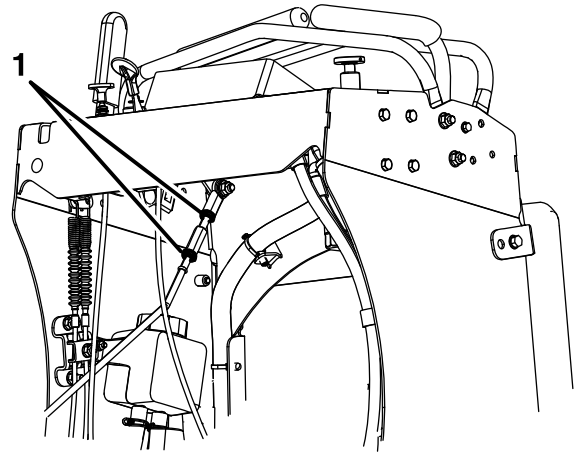

Figure 44
- A. Allow the control levers to return to neutral and loosen the 2 jam nuts on the hex adjustment linkage (Figure 44).
- C. Tighten the jam nuts (Figure 44).